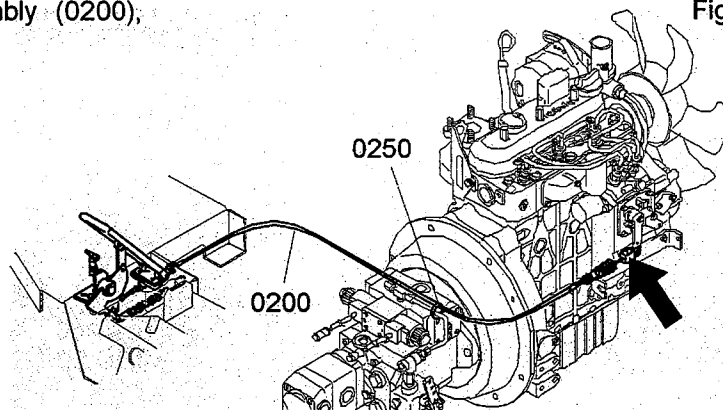

Fig05-11:
12. Fig05-11: Install the cable assembly (0200), then install the cable clamp (0250).